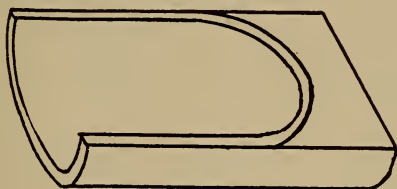

Fig. 55.
7. Round off the bottom by planing down to the curves drawn on the ends. (Fig. 55.)